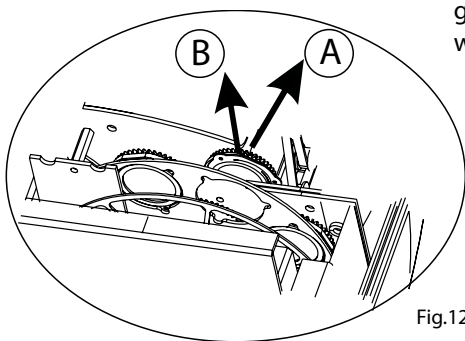

Fig.12
3. Push the gobo plate follow the direction A, and pull out the plate follow the direction B (fig.12).
7. Make sure the gobo plate is installed under the pressure plate (C).